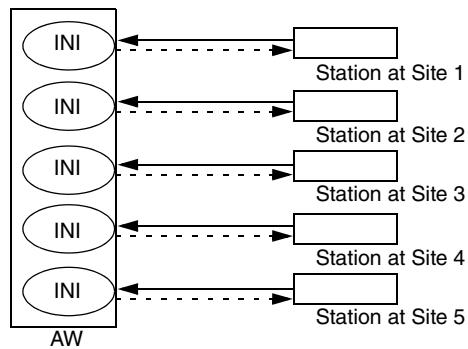

Figure 4. Q0301ZT and Q0302AG
- ▶ Q0301ZT - INI70 Asymmetric Software for Five Systems (Figure 4)
- ▶ Q0302AG - Upgrade to INI70 Asymmetric Software for Five Systems (Figure 4)